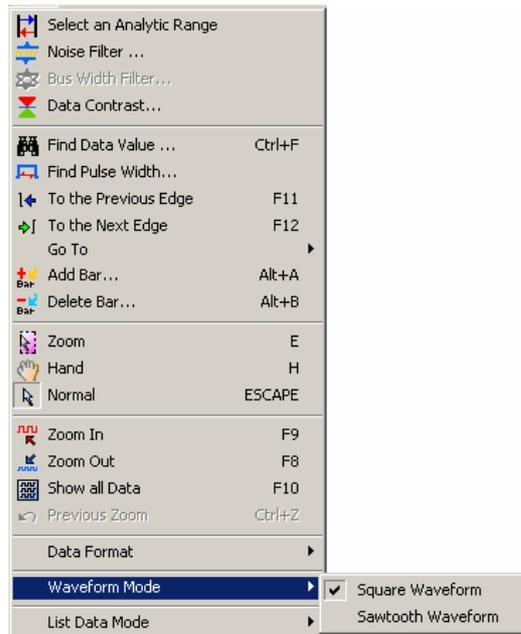

Fig. 6-7 – Waveform Mode (1)
**A:** Yes, you can. There are two ways to do this. First, go through **Data → Waveform Mode** and choose a waveform. See Fig. 6-7.